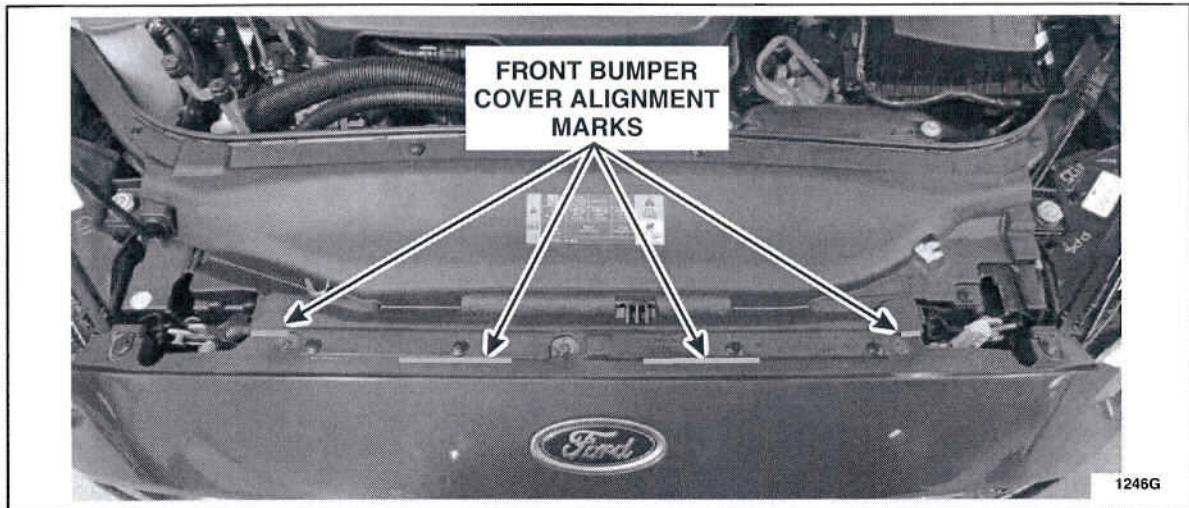
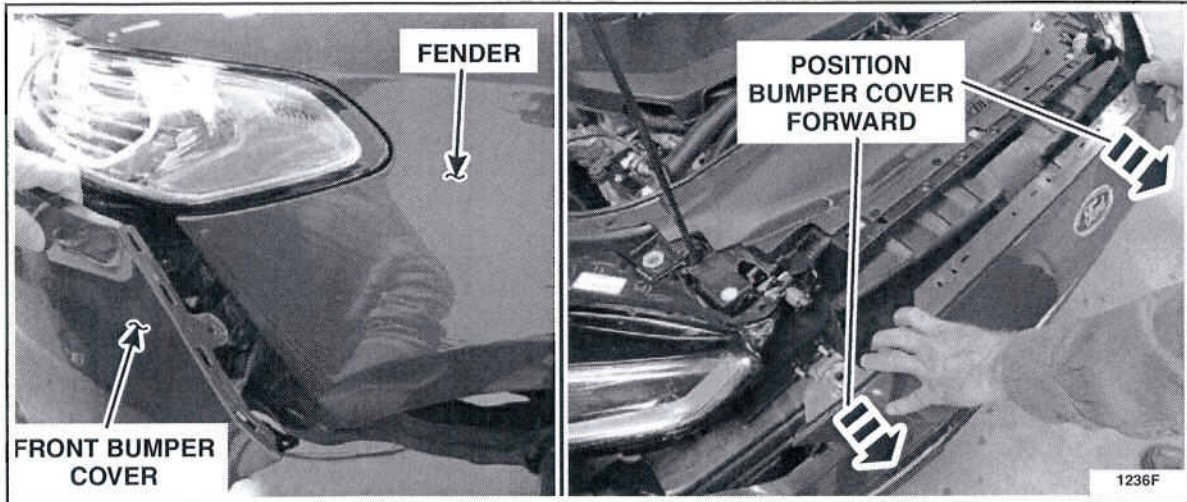

FIGURE 6
FIGURE 10
7. Using a nonpermanent marking tool (such as a grease pen), make alignment marks on the front bumper cover for reinstallation. See Figure 6.
11. Release the front bumper cover from the RH and LH fenders by pulling outward. Position the front bumper cover forward to allow for removal of the headlamp assemblies. See Figure 10.
2. Lift up the front bumper cover and engage cover into the fender by pushing inward until it is seated. See Figure 10. Position the front bumper cover back to the previously made alignment marks. See Figure 6.